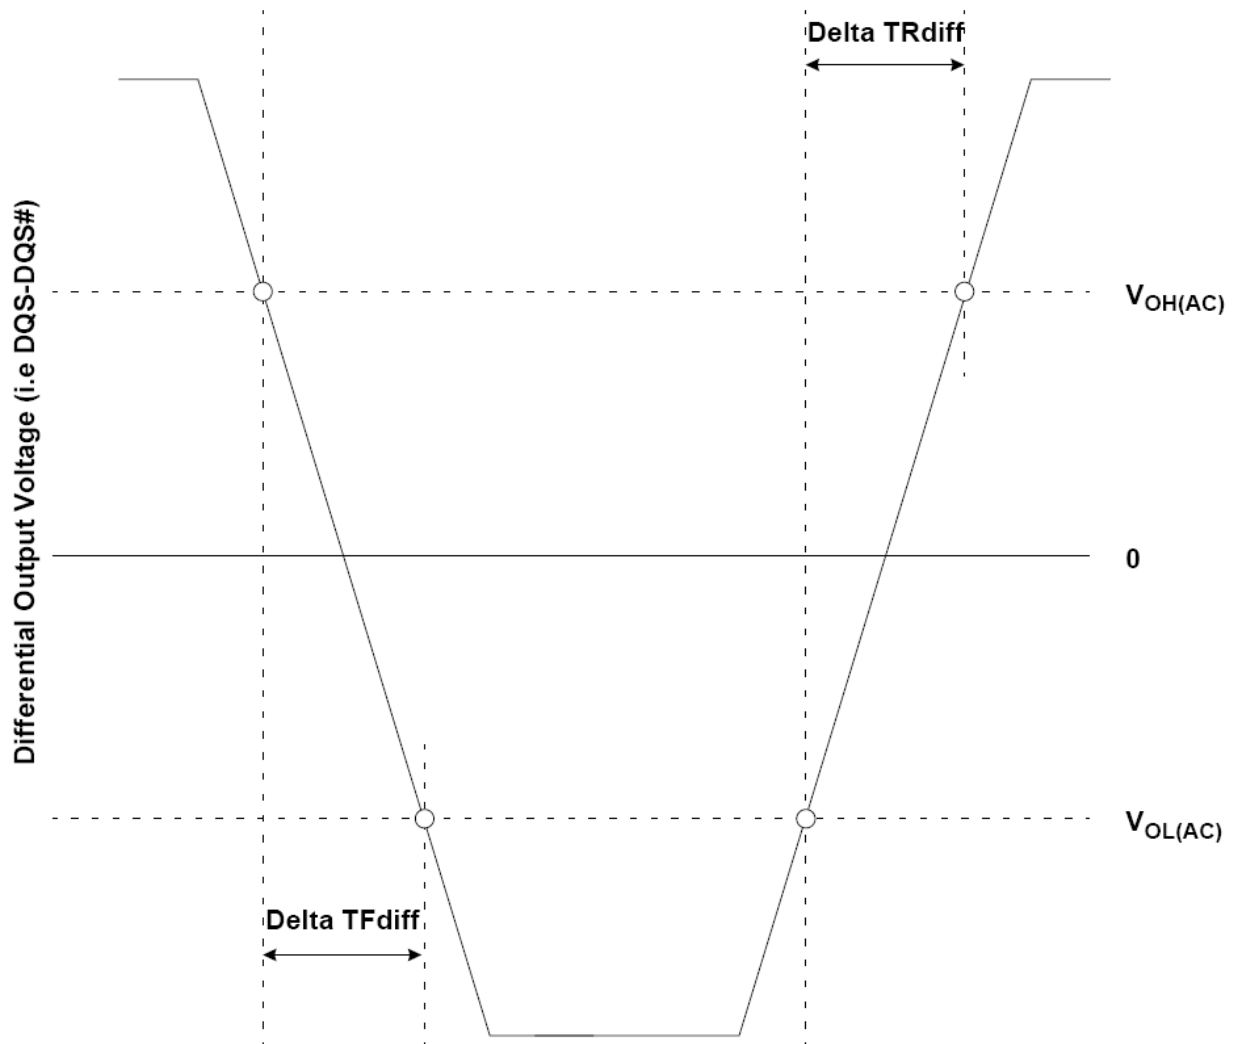

Figure 8.2 — Differential Output Slew Rate Definition
With the reference load for timing measurements, output slew rate for falling and rising edges is defined and measured between VOLdiff(AC) and VOHdiff(AC) for differential signals as shown in Table 35 and Figure 8.2